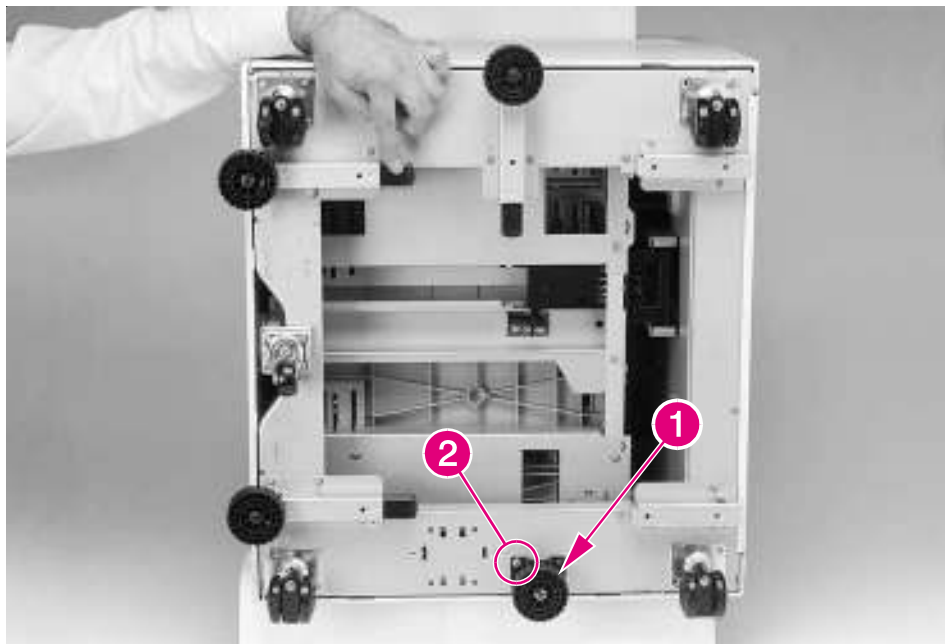

Figure 6-82 2000-sheet Input Tray Adjustable Foot
- 3 Locate the Adjustable Foot (Figure 6-82, callout 1), and remove the 2 screws that secure the Adjustable Foot to the chassis (callout 2).